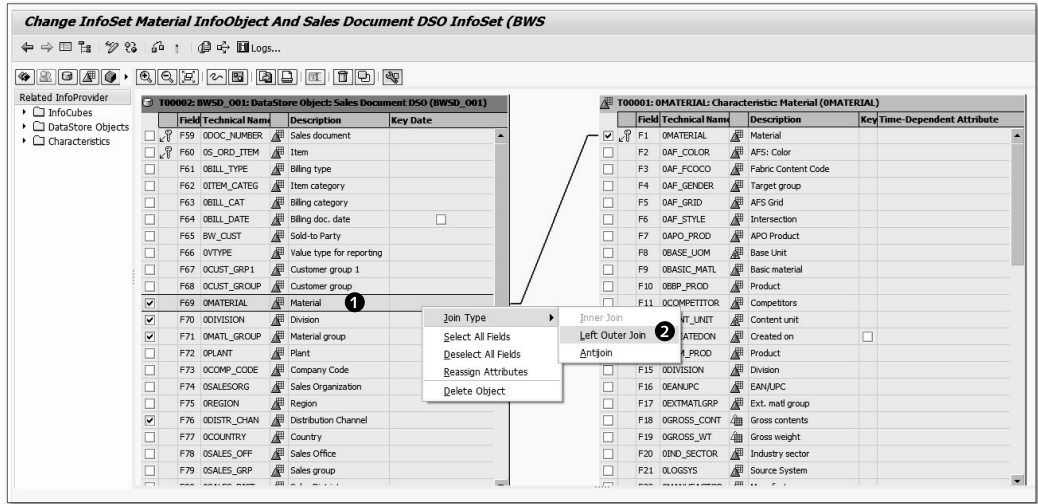

Figure 6.16 Selecting the Left Outer Join Option
As we've stated previously, the join selected between two InfoProviders included in an InfoSet definition is an inner join by default. However, you can change that to a left outer join if required. Select the InfoProvider T00002, and open the context menu, as shown in ❶ of Figure 6.16. Click on the LEFT OUTER JOIN option ❷.